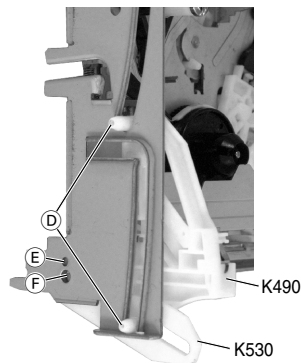

Fig. 5
- Insert the cassette lift so that the two left guide pins (D) (Fig. 5) engage into the lift guides of the lift lever (K530) and in the frame.
- Disengage the locking lug of the lift lever one after the other through the holes (E) (Fig. 5) and (F) then remove the lift lever (K530).